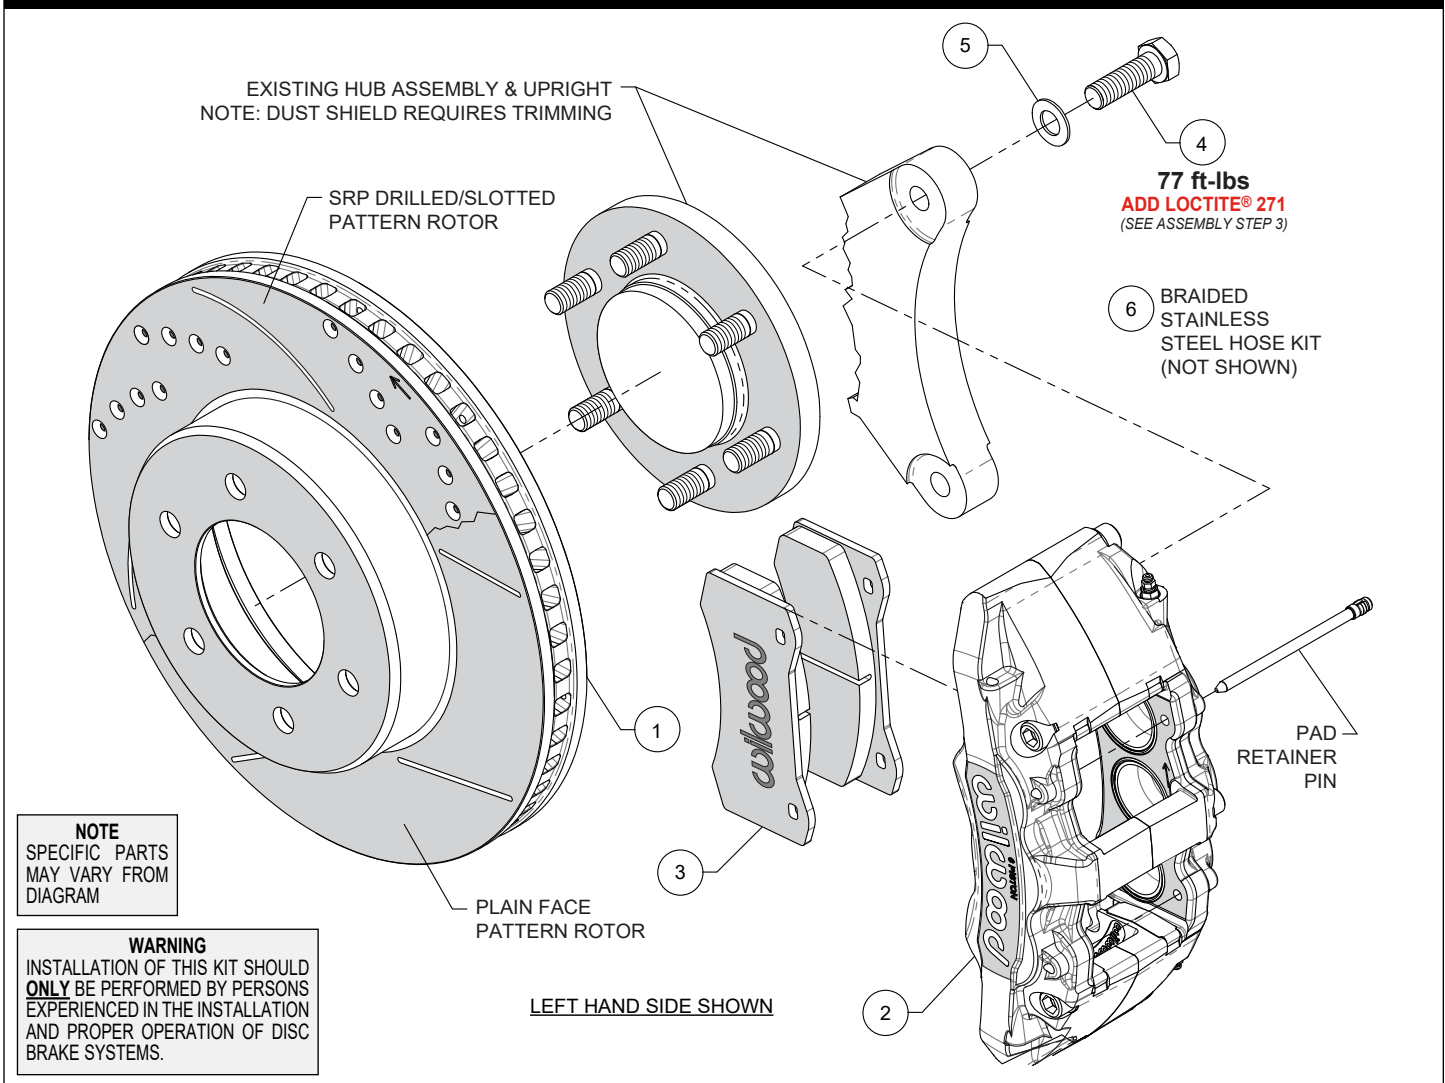

Figure 1. Typical Installation Configuration
Numbers in parenthesis refer to the parts list and Figure 1 on the preceding pages.
**STEP 1** Slide the rotor (1) onto the hub. **NOTE:** The rotor must fit flush against the hub flange or excessive rotor run out may result. Install three lug nuts (finger tight) to keep the rotor in place while continuing with the installation, Photo 1.
**STEP 2** Remove the two pad retaining pins from the caliper (2), Figure 1. Insert the brake pads (3) into the caliper, with the friction material facing the rotor, as shown in Photo 2. Secure the brake pads in place with the pad retaining pins, Photo 3 and Figure 1. **CAUTION:** Ensure pad retaining pins are completely engaged into caliper. It is recommended to use a small flat punch and hammer to tap the pins in until they are fully seated.
**STEP 3** **NOTE:** This kit contains distinct right and left hand calipers that must be mounted in a specific direction, as described below. Ensure that the caliper is mounted so the largest pistons are at the rotor exit end of the caliper, in relation to the forward direction of the rotor. Mount the caliper (2) onto the OEM caliper mounting bosses of upright using bolts (4) and washers (5), as shown in Figure 1. Apply red *Loctite*® 271 to bolt threads, and torque to value shown in Figure 1.
**STEP 5** Attach brake line to caliper. **NOTE:** OEM rubber brake hoses generally cannot be adapted to Wilwood calipers. Install Wilwood's braided stainless steel flexline hose kit (6), p/n 220-17529, included with this kit. The caliper inlet fitting is a 1/8-27 NPT.